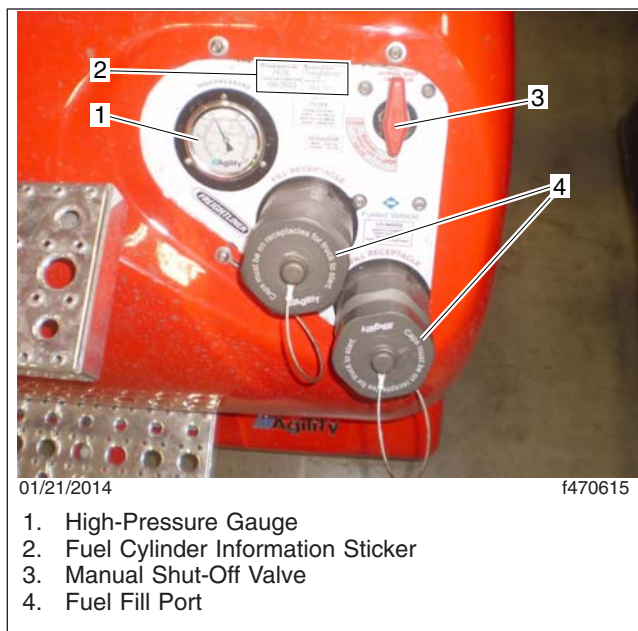

Fig. 2, Fill Panel (side tank shown)
3. Turn the manual shut-off valve to the "ON/OPEN" position. See Fig. 2.